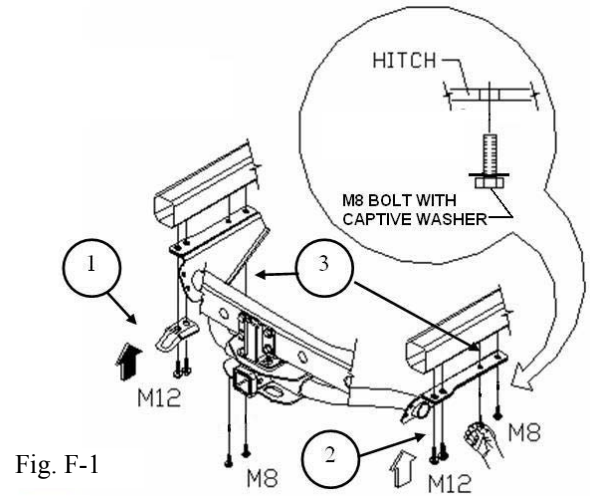

Fig. F-1
-  1. Reinstall tie-down bracket to hitch using two (2) M12 x 1.25x35 black bolts in driver side rear most frame locations. (Fig. F-1, 1)
-  2. Secure hitch to frame using two (2) M12 x 1.25x35 black bolts in passenger side rear most frame locations. (Fig. F-1, 2)
-  3. Hand start four (4) M8 x 1.25 x 25 black bolts with trapped washers in forward most frame locations. (Fig. F-1, 3)